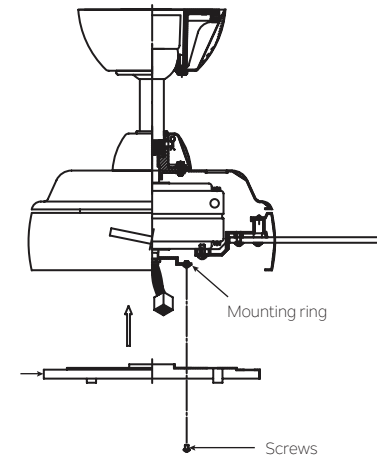

Fig. 15
Step 1. Loosen the two screws on the mounting ring attached to the motor shaft and “remove” and save the third screw. (Fig. 15)